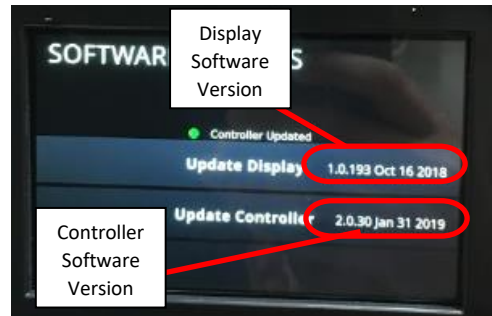

Figure E14: Pin Code Screen with Enter
24. Record Display Software Version and Controller Software Version displayed on the right-hand side of screen for your records. **See Figure E14.**